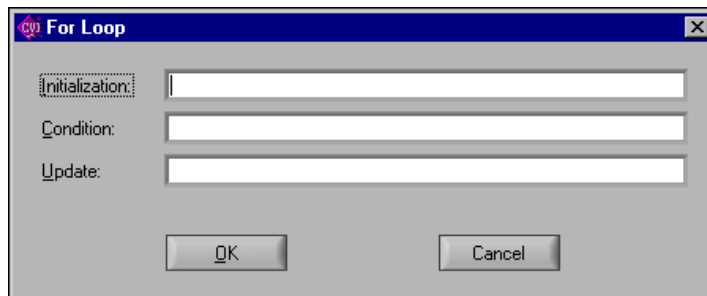

Figure 6-1. For Loop Dialog Box
3. Select **Edit»Insert Construct»For Loop** and enter the values shown in Figure 6-1. Click **OK**.
Tip LabWindows/CVI utilities help you generate code for common C constructs such as For loops, While loops, and Switch statements. Select **Edit»Insert Construct»For Loop** to display the dialog box shown in Figure 6-1.